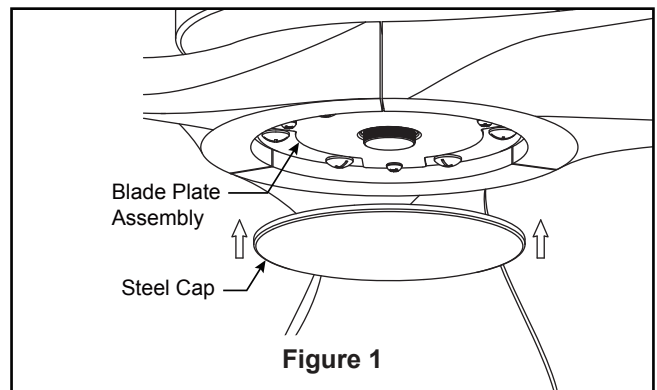

Figure 1
1. Position the steel cap onto the blade plate assembly bottom. (Figure 1)